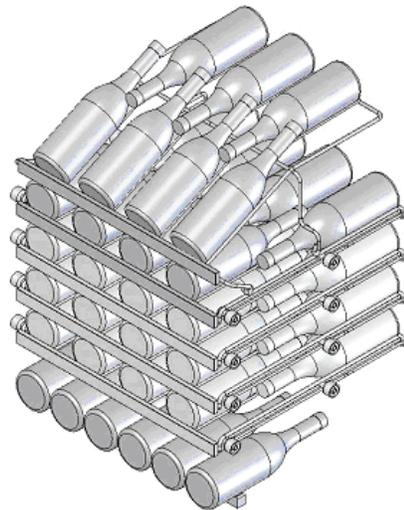

Figure 8
Position white wines on the middle or lower racks and red wines on the upper racks (see Figure 8). Two (2) magnums can be placed in the bottle cradle as long as they are positioned horizontally.